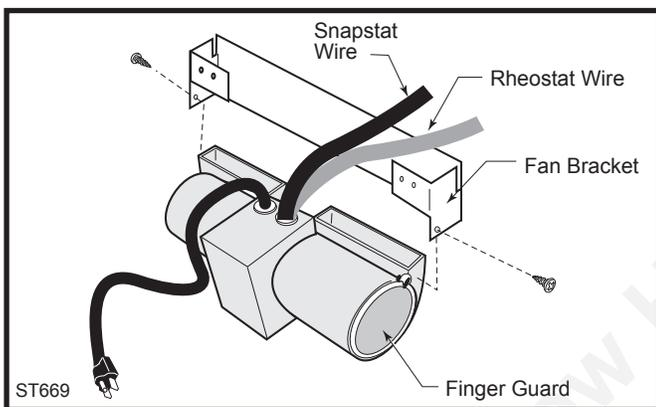

Fig. 8 Attach the fan assembly to the fan bracket.
2. Attach the fan assembly to the bracket provided in the log box. Use #10 sheet metal screws provided with fan kit. Do not remove finger guard screws. (Fig. 8)